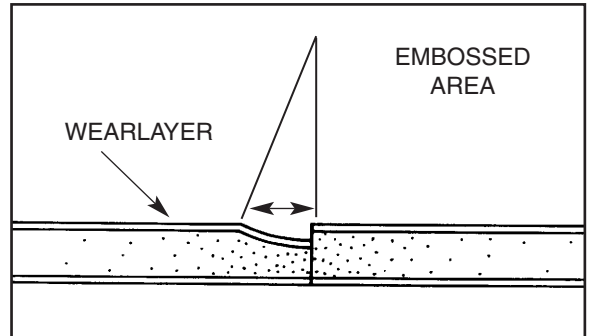

Fig. 15. Unsatisfactory seaming method; wearlayers do not meet.
- **Note Figure 15** — Cutting the seam in the fashion pictured here is **NOT RECOMMENDED** because the wearlayers do not meet, creating a high/low condition and a weak seam sealer weld. The potential for seam openings is high.